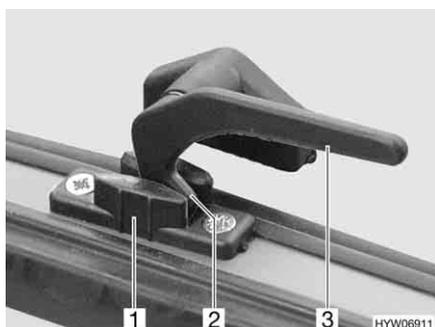

Fig. 72 Catch lever in the "continuous ventilation" position
- "Continuous ventilation" (Fig. 72)
- Turn all catch levers (Fig. 72,3) a quarter turn towards the centre of the skylight.
- Return all catch levers to their initial position. The locking catch (Fig. 72,2) has to be moved into the recess of the skylight lock (Fig. 72,1).